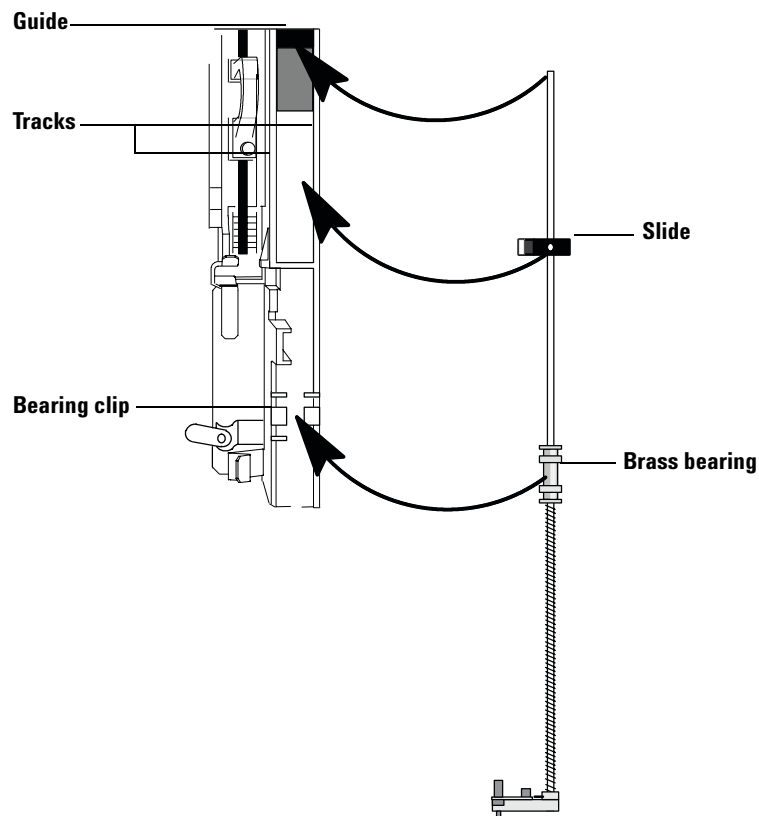

Figure 7 Installing the needle support
- 1** Hold the new needle support assembly in your right hand (Figure 7).